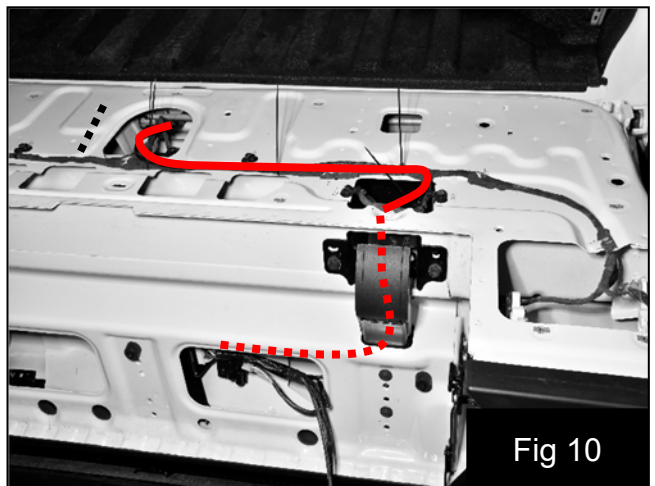

Fig 10
12. Continue to route the amplifier harness along the factory harness to the underneath side of the chassis near the back side of the trailer connector. Secure amplifier harness to factory harness with supplied wire ties. Fig 10